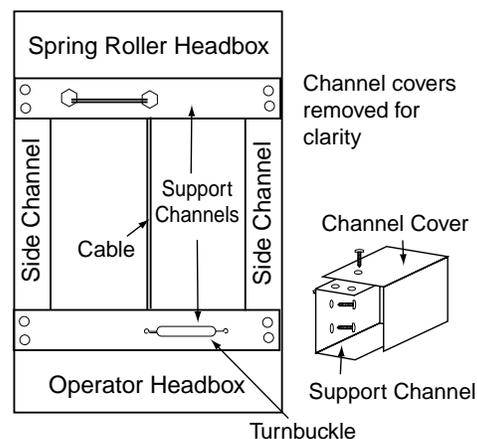

Figure 10
- ① Make sure unit is square.
- ② Install the motor roller and spring roller assemblies by following the instructions in the "Roller Assembly/Installation" section.
- ③ Remove finished channel covers from from support channels.
- ④ Attach support channels to the side channels through the pre-drilled holes (see Fig. 10). Make sure fuzzy protective strip along bottom of supports channels face inside, away from the headboxes.